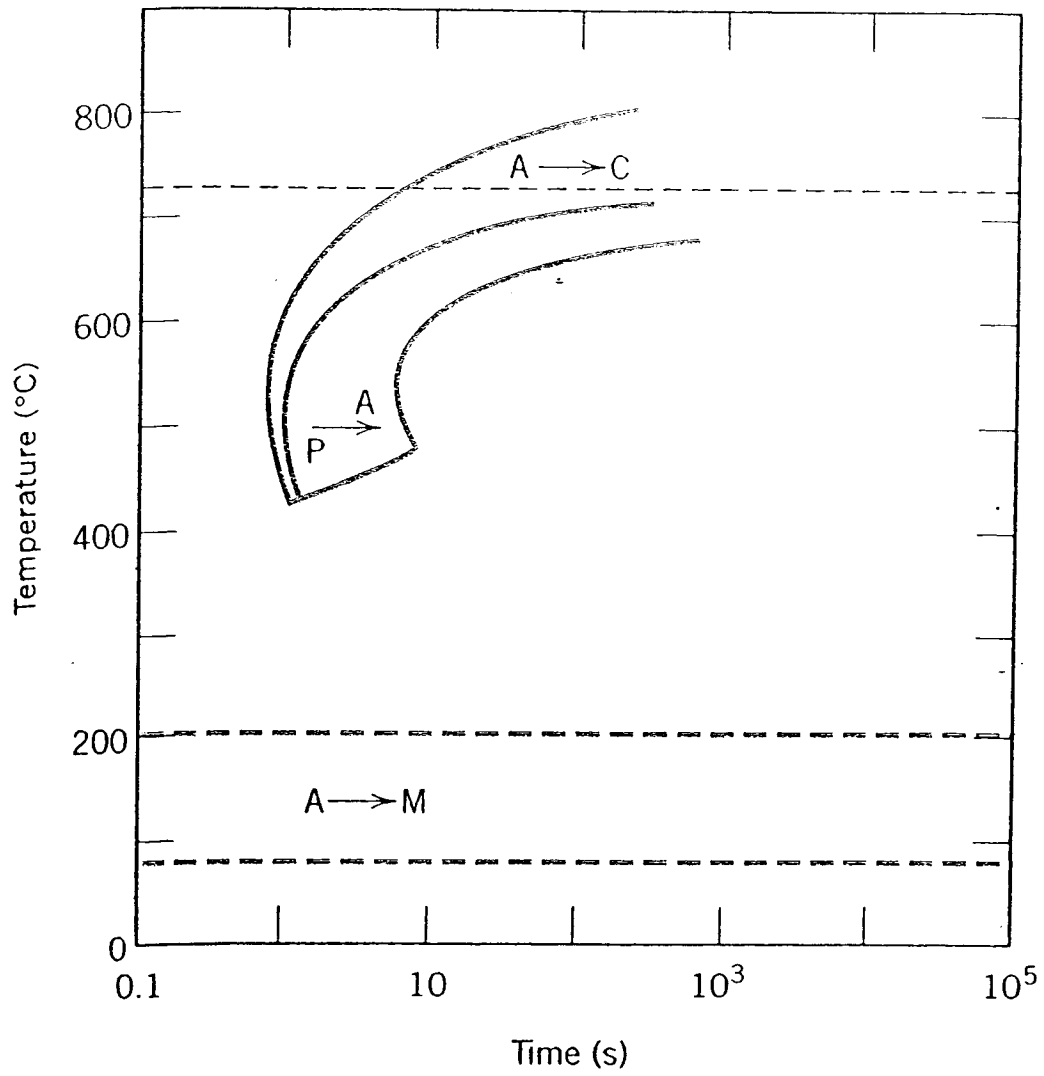

Figure 3
- [b] Figure 3 shows the continuous cooling transformation diagram for a 1.13 wt%C iron - carbon alloy. Sketch and label on this diagram the continuous cooling curves to yield the following microstructure,
(Detach Figure 3 and submit together with the answer script)